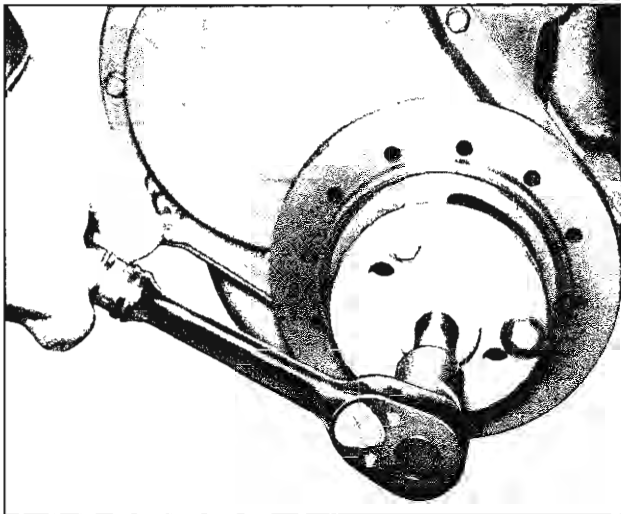

Fig. 26—Removing Harmonic Balancer
3. Install Tool J-6978 to balancer and turn puller screw to remove balancer (fig. 26). Then remove tool from balancer.